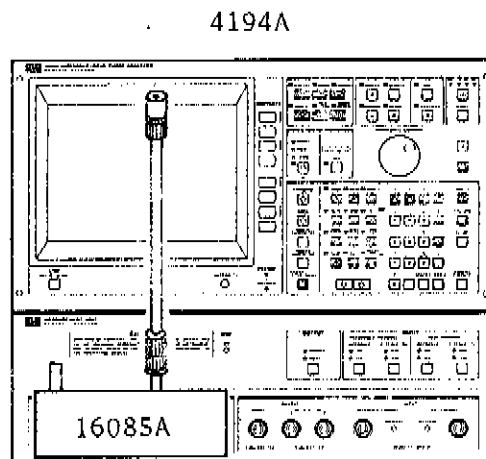

Figure 4-31. Impedance Measurement Accuracy Test Setup 2
1. Connect the 16085A to the 4194A's UNKNOWN terminals as shown in Figure 4-31.